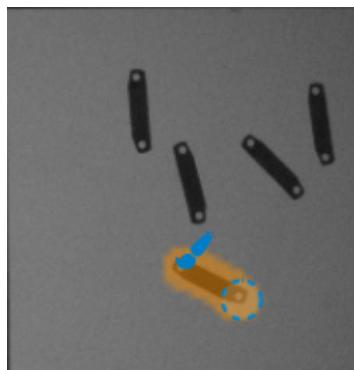

Figure 20: Draw a part shape region
- Click **Brush** to draw a region that covers a feature of the reference part. See figure 20.